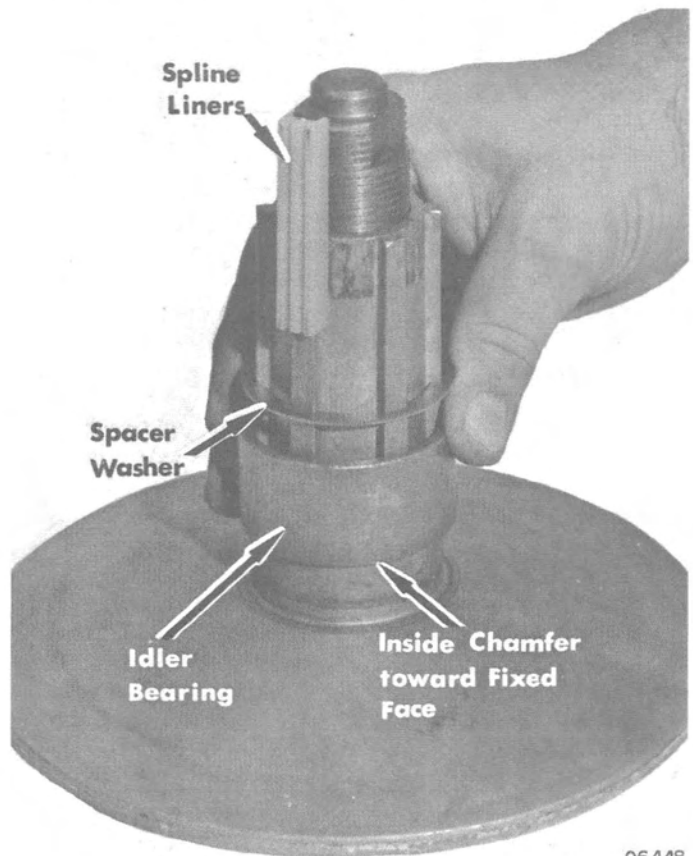

Figure 8. Removing Spline Liners, Spacer Washer and Idler Bushing
6. Remove spline liners, spacer washer and idler bushing. (Figure 8)
2. Install idler bushing with inside chamfer toward fixed half of drive sheave. (Figure 8)